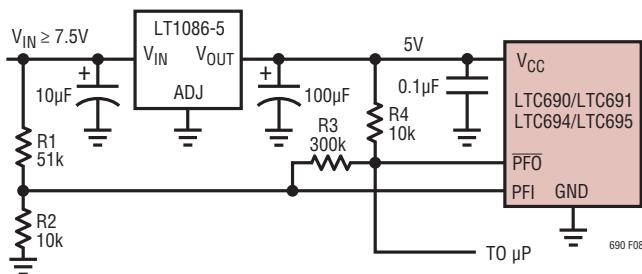

Figure 8. Monitoring Unregulated DC Supply with the LTC690's Power-Fail Comparator
The LTC690 family generates a Power Failure Output (PFO) for early warning of failure in the microprocessor's power supply. This is accomplished by comparing the Power Failure Input (PFI) with an internal 1.3V reference. PFO goes low when the voltage at the PFI pin is less than 1.3V. Typically PFI is driven by an external voltage divider (R1 and R2 in Figures 8 and 9) which senses either an unregulated DC input or a regulated 5V output. The voltage divider ratio can be chosen such that the voltage at the PFI pin falls below 1.3V several milliseconds before the 5V supply falls below the maximum reset voltage threshold 4.75V. PFO is normally used to interrupt the microprocessor to execute shutdown procedure between PFO and RESET or RESET.
The power-fail comparator, C3, does not have hysteresis. Hysteresis can be added however, by connecting a resistor between the PFO output and the noninverting PFI input pin as shown in Figures 8 and 9. The upper and lower trip points in the comparator are established as follows:
**Example 1:** The circuit in Figure 8 demonstrates the use of the power-fail comparator to monitor the unregulated power supply input. Assuming the the rate of decay of the supply input  $V_{IN}$  is 100mV/ms and the total time to execute a shutdown procedure is 8ms. Also the noise of  $V_{IN}$  is 200mV. With these assumptions in mind, we can reasonably set  $V_L = 7.5V$  which 1.25V greater than the sum of maximum reset voltage threshold and the dropout voltage of LT1086-5 (4.75V + 1.5V) and  $V_{\text{HYSTERESIS}} = 850mV$ .